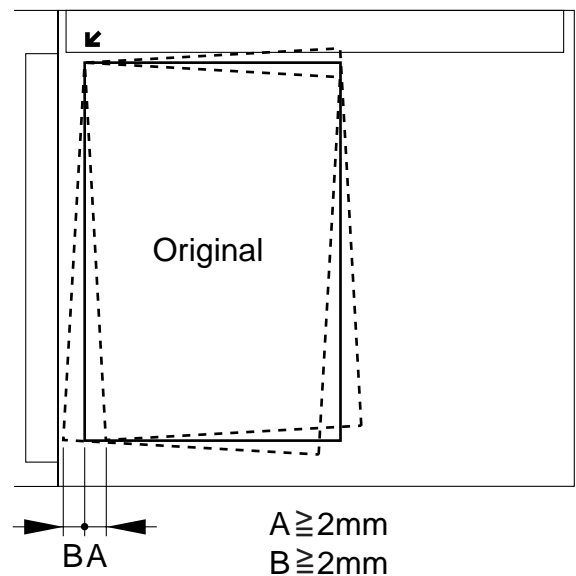

Figure 5-111
- 5) Open the ADF slowly, and check to make sure that A and B shown in Figure 5-111 are 2 mm or less. Close the ADF, and press the push switch (SW2) on the ADF controller PCB once.